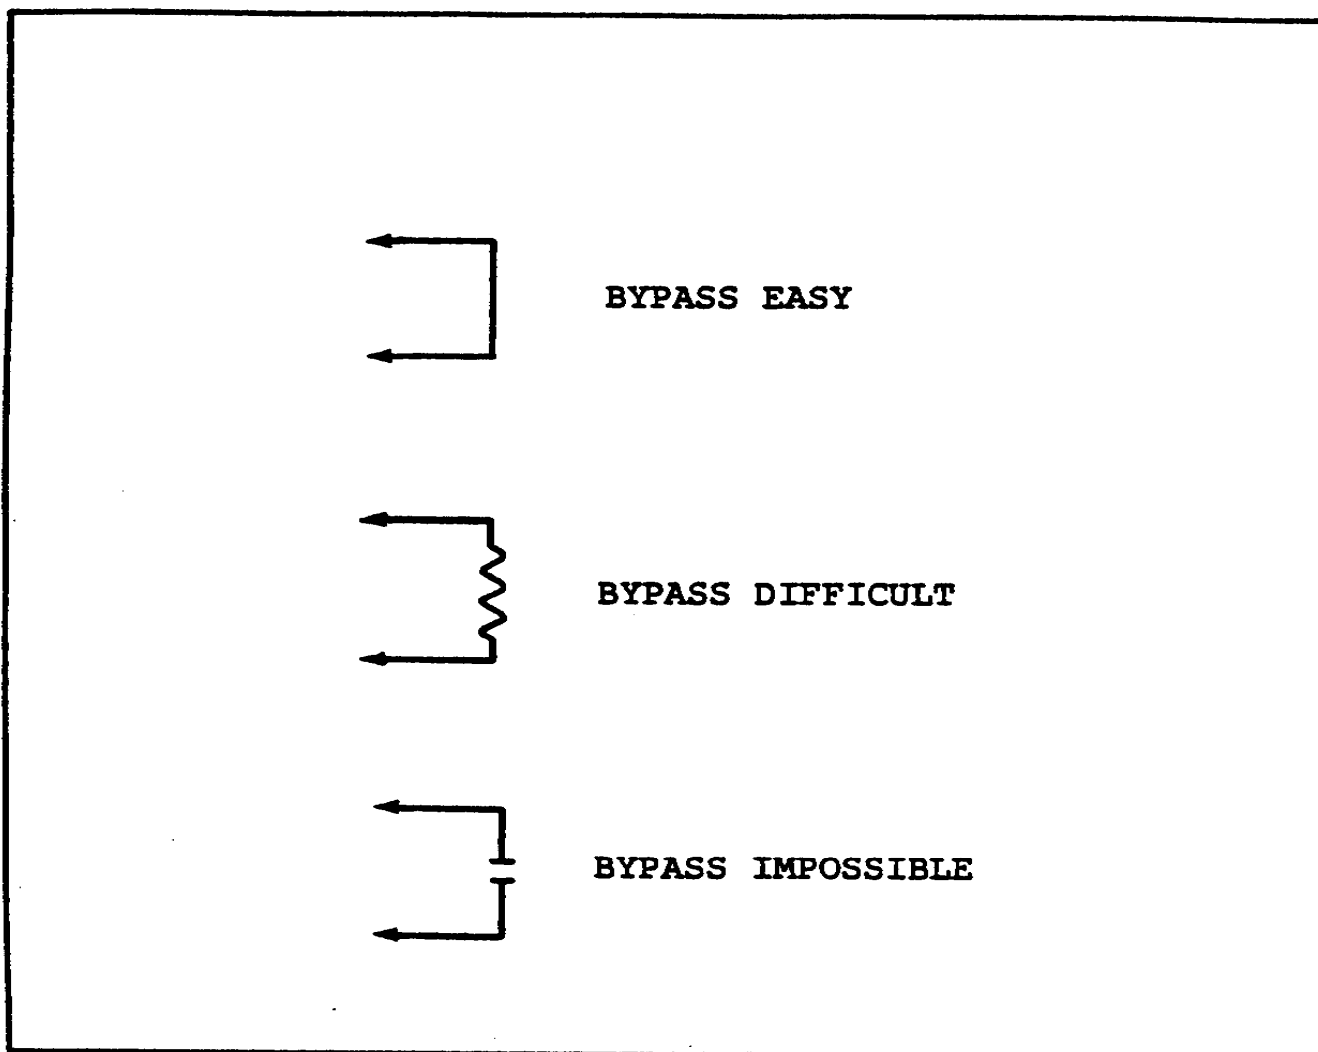

FIGURE 1-23. BYPASS SYMBOLS.
k. Bypasses. Bypasses are local detours along a specified route that allow traffic to avoid an obstruction. For example, if a bridge is destroyed, is there a place nearby that will allow traffic to get around it without major rerouting? When a bypass is limited to a specific vehicle type, it must be noted on the reconnaissance report. There are three types of bypasses, easy, difficult, and impossible. Each type is represented by a different symbol. These symbols are illustrated in Figure 1-23.